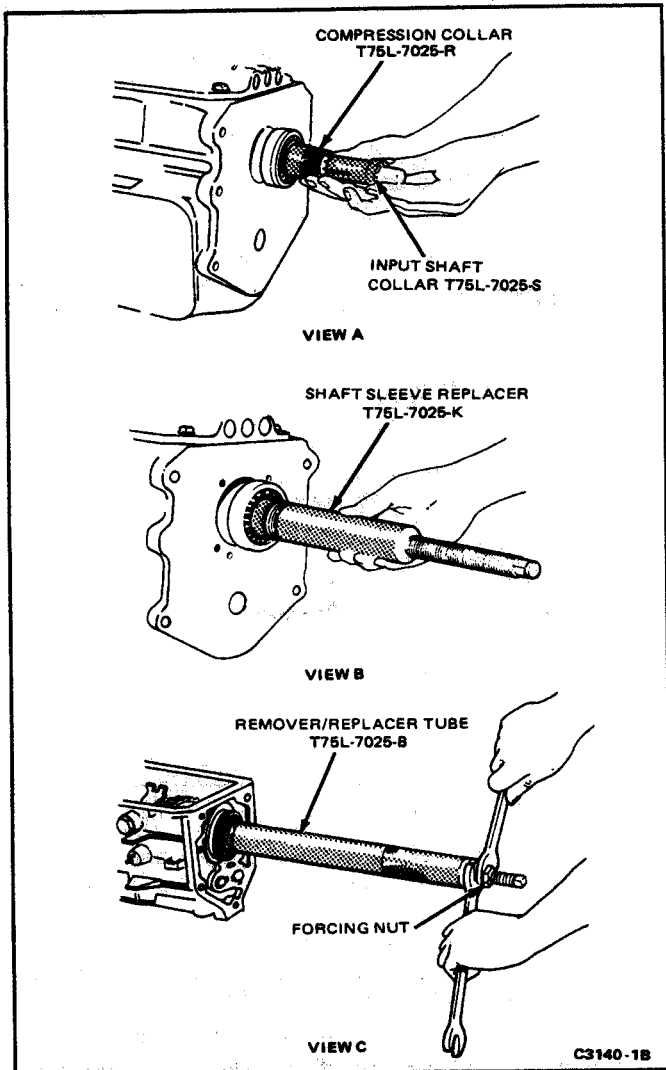

FIG. 13 Installing Input Shaft Bearing
15. Install the input shaft bearing using the tools, T75L-7025-B, K, R, S as shown in Fig. 13 and install the snap ring. Use the thickest select fit snap rings which will fit on the bearing.